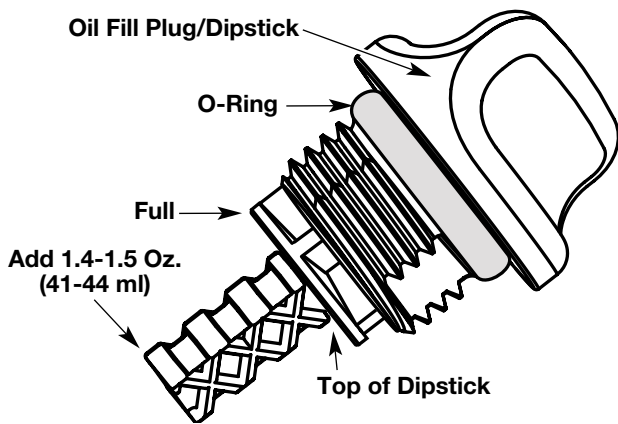
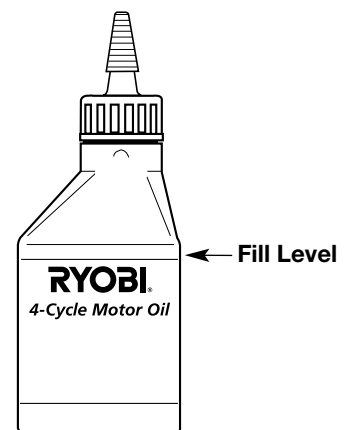

Fig. 28
Fig. 31
5. Remove the oil fill plug/dipstick and check oil level. Oil should be up to the top of the dipstick (Fig. 28).
**NOTE:** Use the bottle and spout saved from initial use to measure the correct amount. 3.4 ounce (100 ml) is approximately to the top of the label on the bottle (Fig. 31). Check the level with the dipstick. If the level is low, add a small amount of oil and recheck (Fig. 28). Do not overfill.